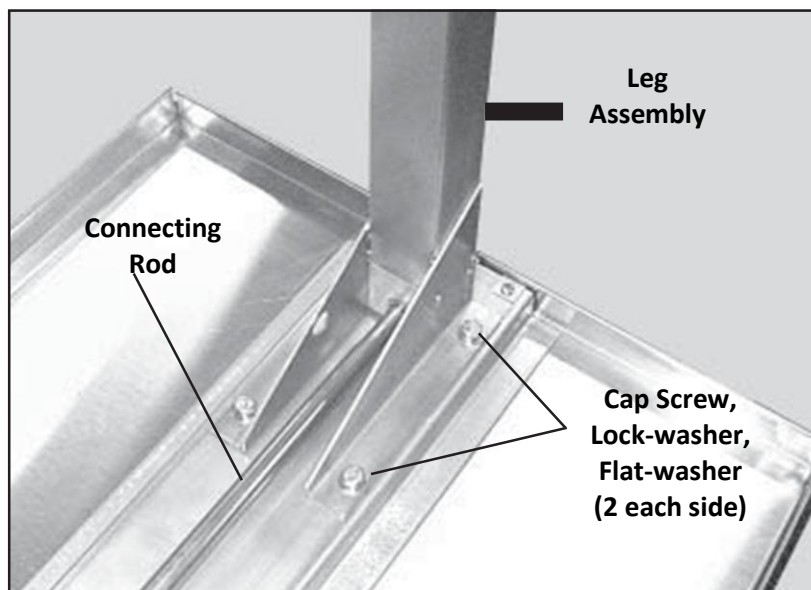

Figure 6-1
3. With a 1/2 in. wrench, remove the eight cap screws, washers and lock-washers that hold the two leg assemblies and the connecting rod to the table top (Figure 6-1).
3. With a ½-in. wrench, remove the eight cap screws, washers, and lock-washers that hold the two leg assemblies and the connecting rod to table top (Figure 6-1)
4. With a 1/2 in. wrench, remove the four cap screws, washers and lock-washers that hold the leg assembly to table top (Figure 6-1).
3. With a 1/2 in. wrench, remove the four cap screws, washers and lock-washers that hold one of the leg assemblies (either one) to table top (Figure 6-1).